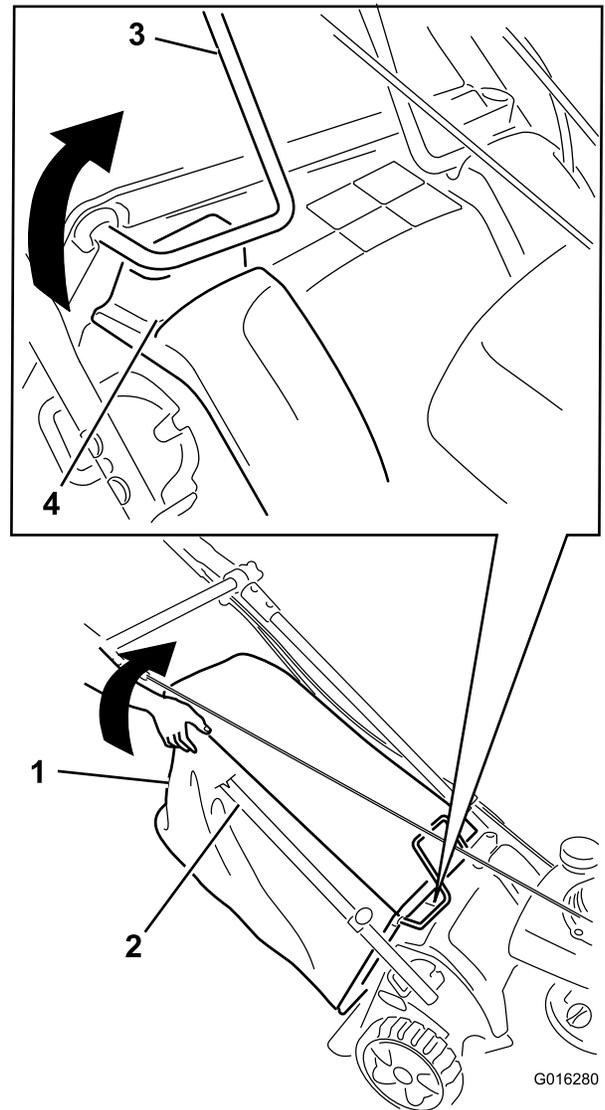

Figure 56
5. While the engine is running, lift up the upper right rear corner of the grass bag until the wire-bag frame at the upper right front of the grass bag is completely out of the right-hand slot (Figure 56). **The engine should stop.**